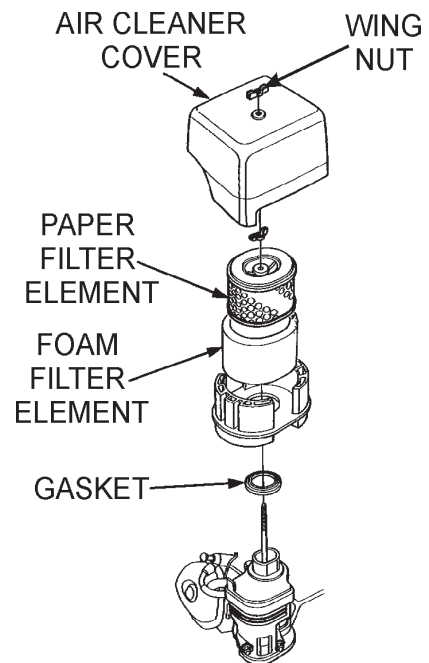

Figure 22. Engine Air Cleaner
- Remove the air cleaner cover and foam filter element as shown in Figure 22.
- Tap the paper filter element (Figure 22) several times on a hard surface to remove dirt, or blow compressed air [not exceeding 30 psi (207 kPa, 2.1 kgf/cm²)] through the filter element from the air cleaner case side. **NEVER** brush off dirt. Brushing will force dirt into the fibers. Replace the paper filter element if it is excessively dirty.